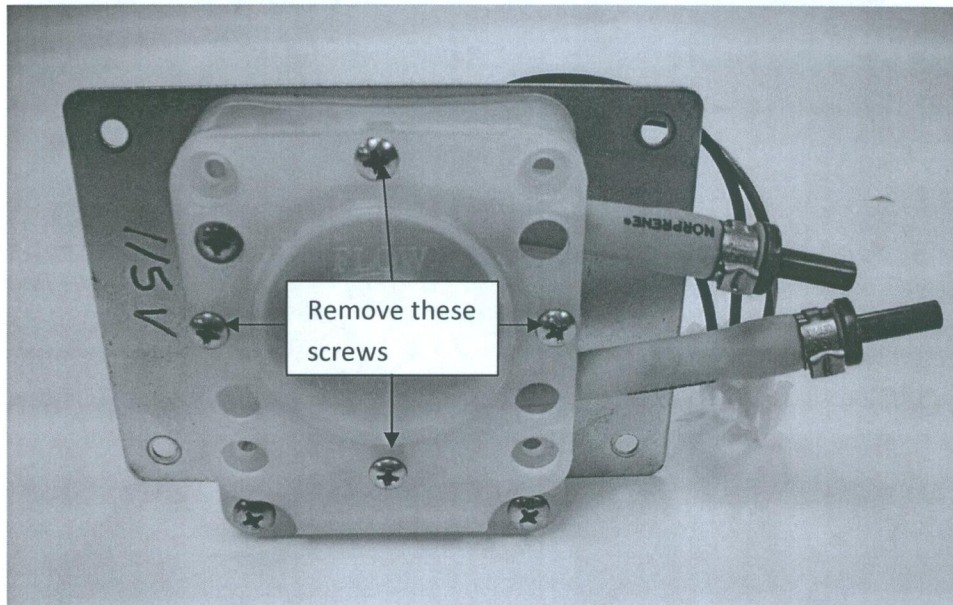

Fig 28
- Identify and remove four screws from pump covers. Refer to Figure 28.